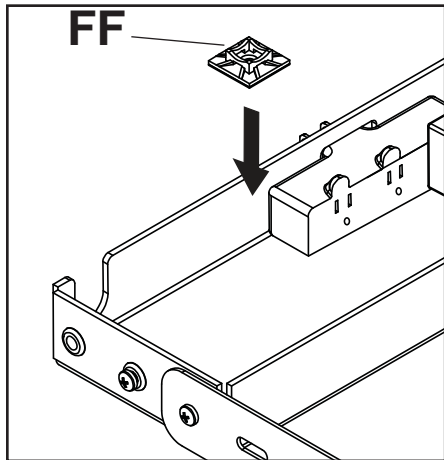

fig. 19.2
- 6 Locate the IR Extender inside of the wireless receiver enclosure shown in figure 19.1. Remove the tie from the cable and position the IR Extender on the display within line of sight of your remote as shown in figure 19.2. Remove the adhesive backing from the IR Extender eye and attach to the display. Coil up the excess cord near the wireless receiver enclosure (AA) and secure with a cable tie (HH). Store the coiled cord back inside of the enclosure.